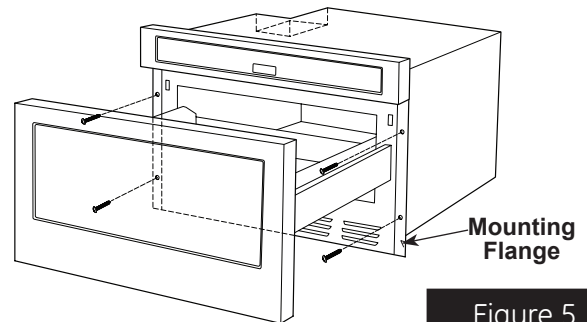

Figure 5
3. Slide the drawer all the way until the mounting flange is flush with the face of the cabinet. See Figure 5.
4. Open the drawer. Using the 4 holes on the drawer as a template, pre drill the cabinet using a 1/16" bit. See Figure 5.